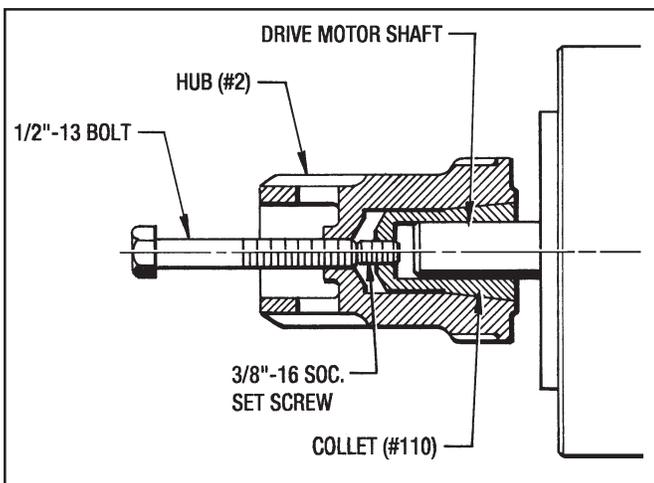

Figure 7.2 - Removing Hub and Collet
2. Install a 3/8"-16 x 1/2" Lg. Soc. Set Screw into the Collet (#110). Then screw a 1/2"-13 Bolt into the Hub (#2) until it contacts the Set Screw. Continue turning the 1/2" bolt until the Hub (#2) is forced off of the Collet (#110). The Collet can now be removed from the motor shaft by hand. (See Figure 7.2)